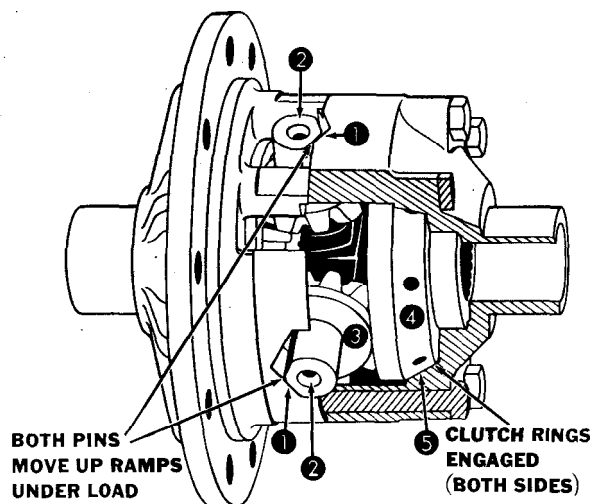

FIG. 3
As the vehicle is put in motion, the driving force moves the cross pins (2, Fig. 3) up the ramp or the cam surface (1), applying a load to the clutch rings (4) and restricts turning of the differential, through the friction of the clutch ring on its mating surface (5) in the differential case.